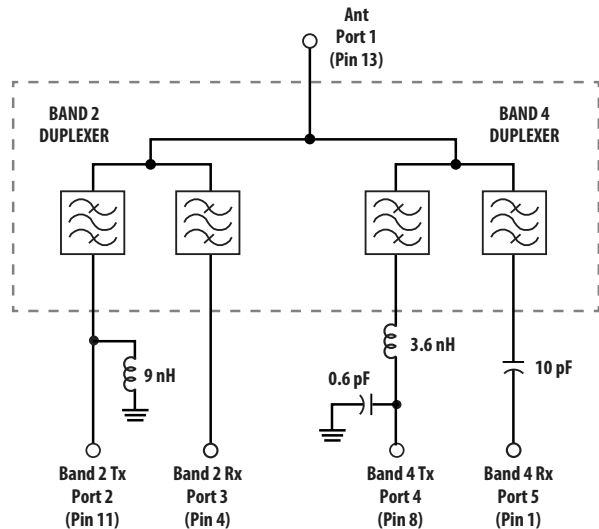

Figure 1. Typical Application.
**ACFM-7024 Electrical Specifications,  $Z_0=50 \Omega$ ,  $T_C$  [1, 2] as indicated. Specifications include matching shown in Figure 1.**
**ACFM-7024 Electrical Specifications, Z0=50 Ω, TC[1,2] as indicated. Specifications include matching shown in Figure 1.**
For purposes of electrical specification, and to illustrate optimum performance, the matching components shown in Figure 1 are used to match the Band 4 Rx and Tx terminals to 50-ohms.
ACFM-7024 Typical Performance at  $T_c = 25^\circ\text{C}$ , include matching shown in Figure 1.